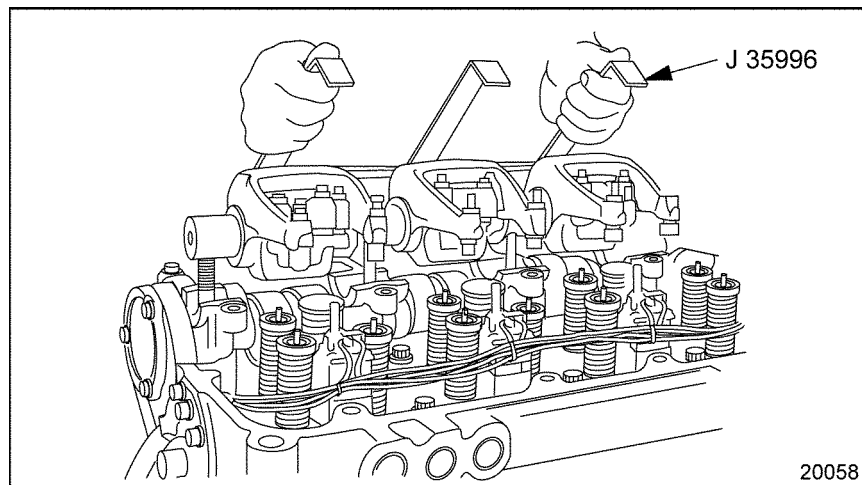

Figure 4-4 Rocker Arm/Shaft Assembly Removal/Installation
7. Remove all the rocker shaft mounting bolts and nut from the front or rear rocker shaft assembly. Using rocker arm lifter (J-35996-A), see Figure 4-4, lift the assembly straight up and off of the head and place in a clean area on the bench.